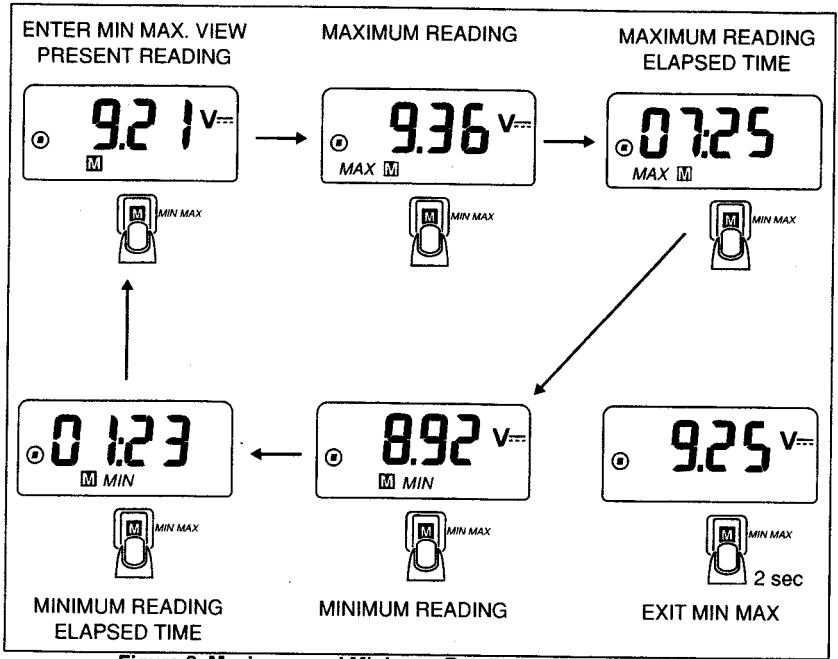

Figure 8. Maximum and Minimum Reading with Elapsed Time
5. Press **[M]** to step through the display sequence shown in Figure 8.